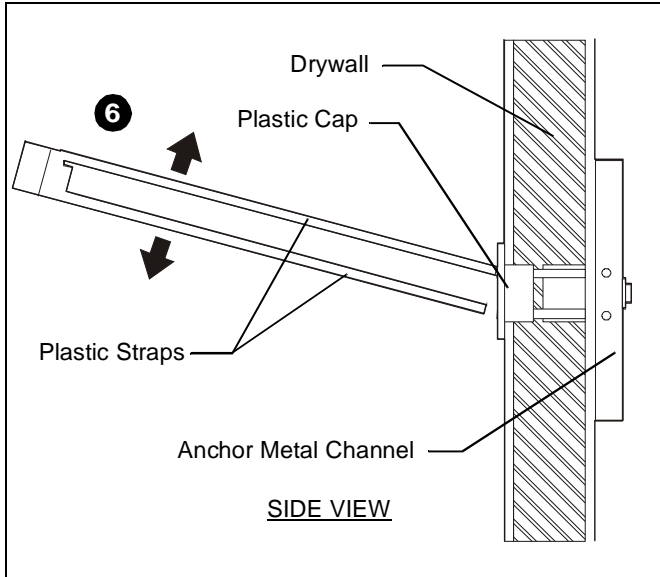

Figure 20
6. Snap off plastic straps on anchor at wall by pushing side to side, snapping off straps level with flange of plastic cap. (See Figure 20)